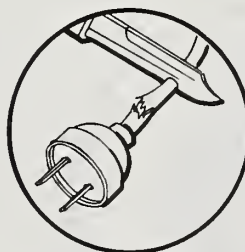

Fig. 1
1. Cut the cord off at the damaged part. (Fig 1.)